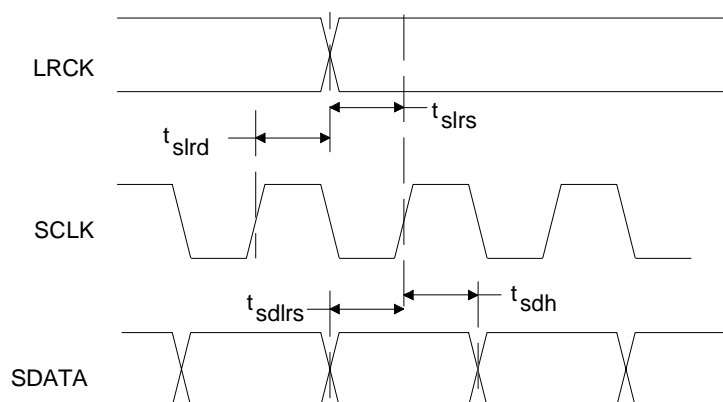

Figure 1. Serial Mode Input Timing
19. Valid with the recommended capacitor values on FILT+ and CMOUT as shown in Figure 1. Increasing the capacitance will also increase the PSRR.